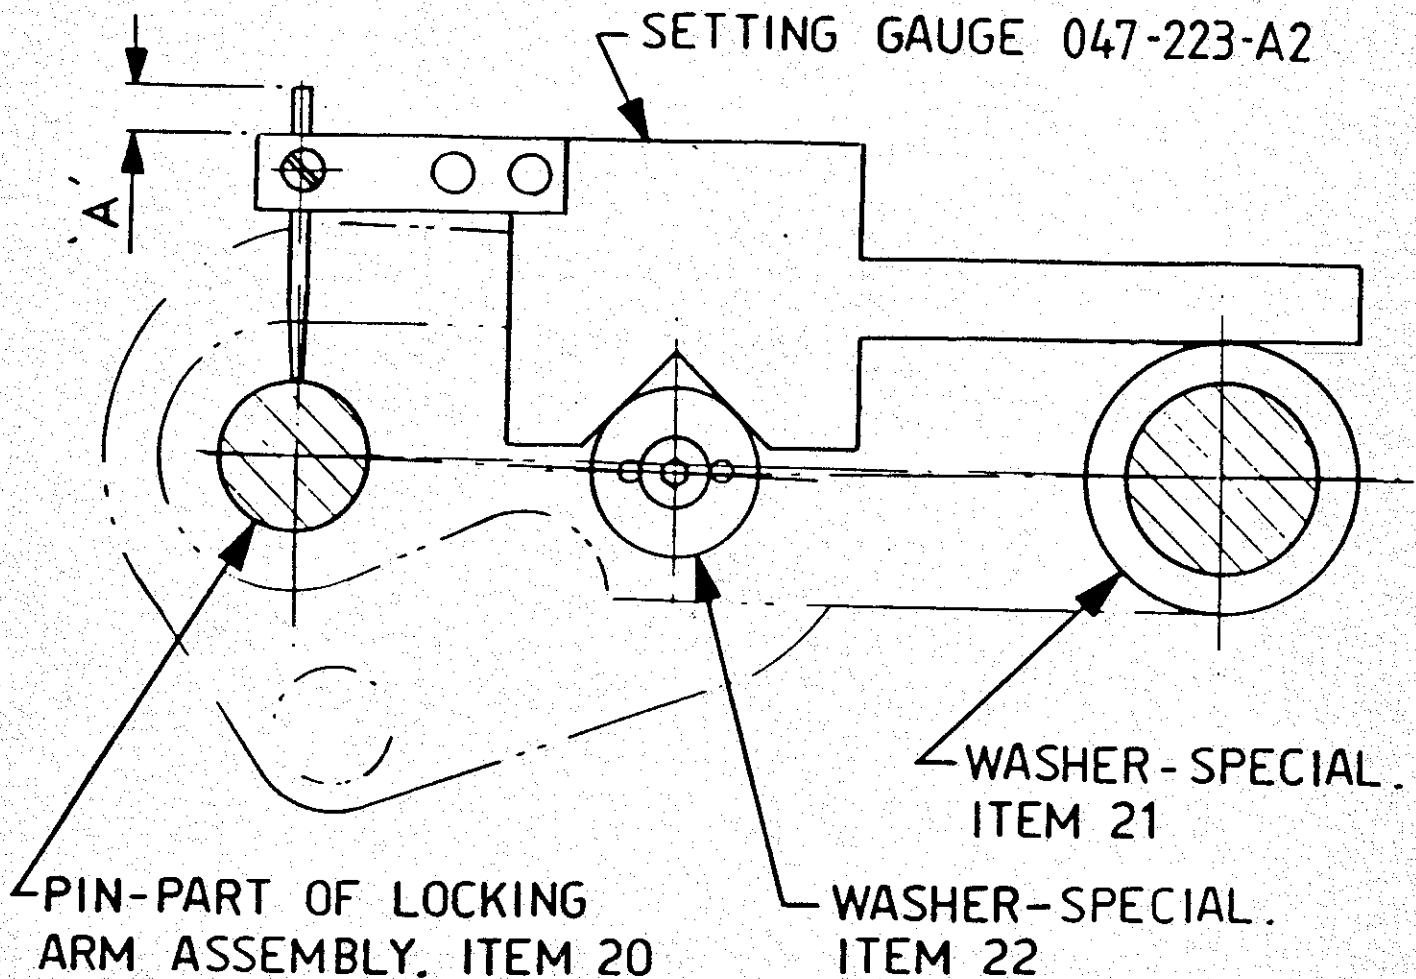

Fig.1. Section Through Mechanism Below Locking Arm Assembly
### 1.1 MECHANISM (See Figure 1).
The emergency release mechanism consists of both an internal and external handle (Items 4 & 17) each of which is connected to a lever assembly (Items 6 & 10). Actuation of either handle causes its respective lever assembly to activate a third lever (Item 9) so pushing the push rod (Item 65 of Figure 1) which in turn operates the lock release.
At one end of the spindle is securely fitted a cam (Item 13). This cam operates a pneumatic valve (not of PLC Peters Limited supply). Initial rotation of the spindle causes the cam to activate the pneumatic valve thus supplying air to both sides of the pneumatic actuator (Item 32 of Figure 1) and, due to the differential areas because of the piston diameter, gives a very slight bias to open the doorleaf. Further rotation of the spindle causes the wedge (Item 57 of Figure 1) to release the door mechanism thus allowing the doorleaf to be manually pushed open.
On the bottom edge extrusion (Item 8) are two cut outs, for positioning the door mounting bracket and parallel motion arm bracket (Item 51 and 53 of Figure 1), and at the top, inner face of the doorleaf are two tapped holes for fitting the top door mounting bracket (Item 49 of Fig. 1).
## 2. DOORSHAFT AND MECHANISM INSTALLATION (See Fig. 1)
- (r) Connect lever (Item 9) to lever (Item 60 of Figure 1) using push rod (Item 65 of Figure 1).
- (s) Check that lever (Item 60 of Figure 1) is approximately  $20^{\circ}$  to the vertical and the wedge (Item 57 of Figure 1) is clear of the mechanism when the doorleaf is closed and locked.
- (t) Operate the interior release handle (Item 4) taking note that the release mechanism valve operates before the wedge (Item 57 of Figure 1) engages the mechanism. Further operation of the handle should release the overcentre locking of the mechanism and allow the door to be pushed open.
- (u) Adjustment in the position of the wedge (Item 57 of Figure 1) is provided by the threaded clevis assembly (Item 58 of Figure 1). To adjust the clevis assembly it will be necessary to disassemble it from the lever (Item 60 of Figure 1).
- (v) The mechanism can be reset by pushing back on the push rod (Item 65 of Figure 1).
- (w) Operate the exterior release handle (Item 17) again checking that the release mechanism valve operates before the wedge (Item 57 of fig. 1) engages the mechanism and that on releasing the handle it does not return to its initial position so closing and locking the doorleaf and mechanism.
NOTE: The position of the wedge (Item 57 of fig. 1) set for internal operation of the release mechanism should also suit external operation.
- (x) The mechanism can, again, be reset by pushing back on the push rod (Item 65 of fig. 1). Check that the valve is also reset as described in (v) above.
(Note that the assembly drawing uses item numbers and part numbers, for manufacturing purposes, which are not the same as the item numbers referred to in this manual. Identification of parts in this setting procedure refers to item numbers as shown in the 'exploded' view of Figs. 1, 2 and 3.
Where there are apparent differences between Fig.1 and the assembly drawing, e.g. in the positioning of screws and washers, etc., the assembly drawing must be taken to be the correct arrangement.